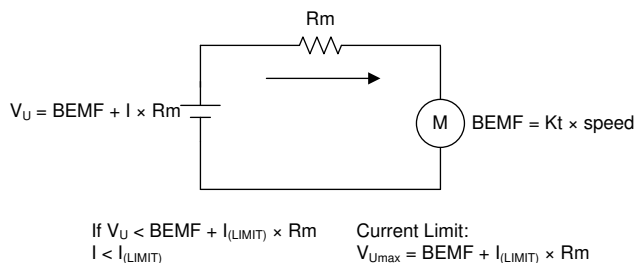

图 7-12. Current Limit
The current-limit function provides active protection for preventing damage as a result of high current. The soft current-limit does not use direct-current measurement for protection, but rather, uses the measured motor resistance (R_m) and motor velocity constant (K_t) to limit the voltage applied to the phase (U) such that the current does not exceed the limit value ($I_{(LIMIT)}$). The soft current-limit scheme is shown in 图 7-12 based on the calculation in 方程式 4.